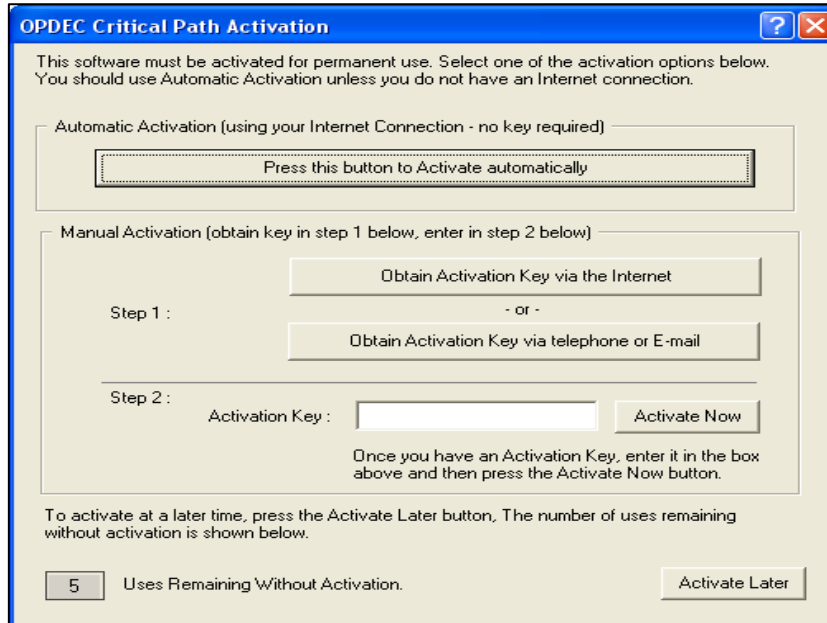

Figure 2
- 3) Once you first start-up the Critical Path tool, you will be prompted to activate the software either automatically, or manually retrieve and enter an Activation Key (figure 2).